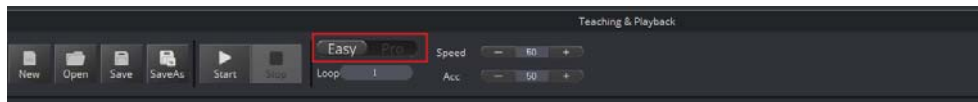

Figure 5.194 Switch advanced function
Step 1 Click  icon on the **Teaching&Playback** page, as shown in Figure 5.194.